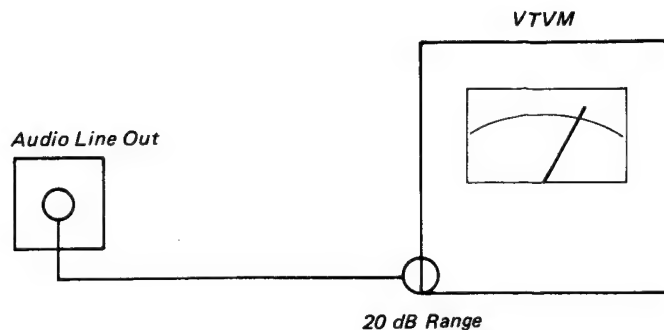

Fig. 5-127 Audio Output Level
1. Connect the VTVM to the AUDIO OUT terminal (see Fig. 5-127).
3. Confirm if the variation of the Audio level is limited within 2dB. (Fig. 5-127)